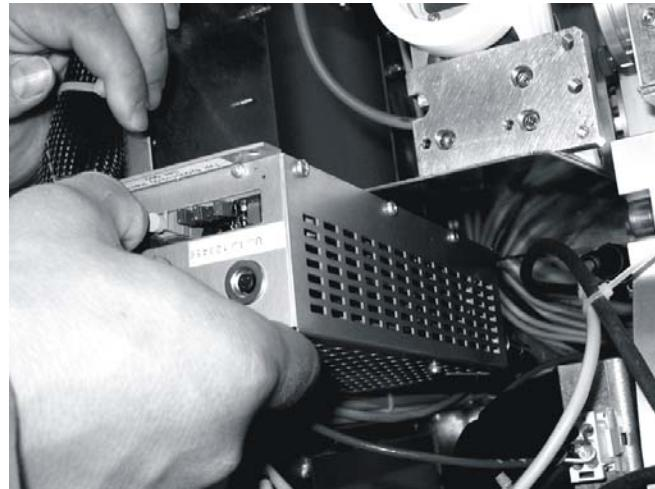

Figure 91: Removing the gas purifier power supply
6. Carefully pull the gas purifier power supply forward (see Figure 91) until the HV cable BNC connection at the rear becomes visible.